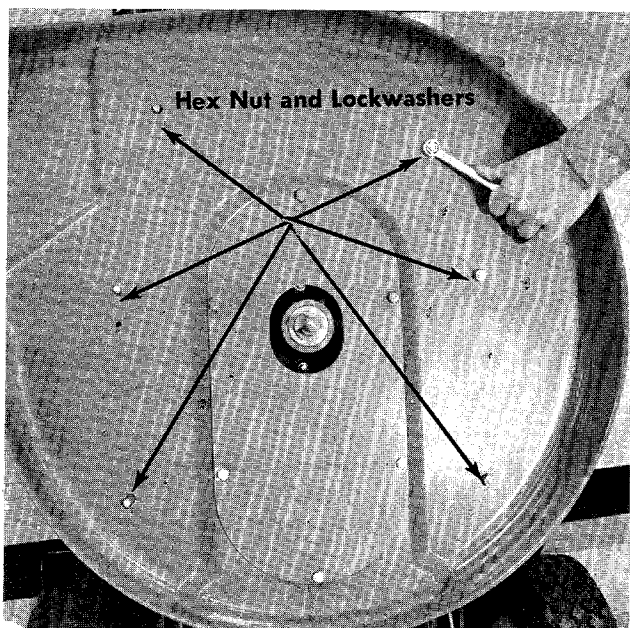

FIGURE 22. REMOVING THE DECK
Step 3. Take off the deck by removing the six hex nuts and lockwashers as shown in figure 22.